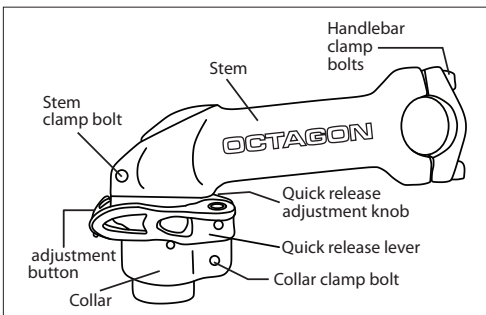

Fig. 47: Octagon® stem parts.
- Octagon® Hand Height Adjustable Stem (Fig. 47)